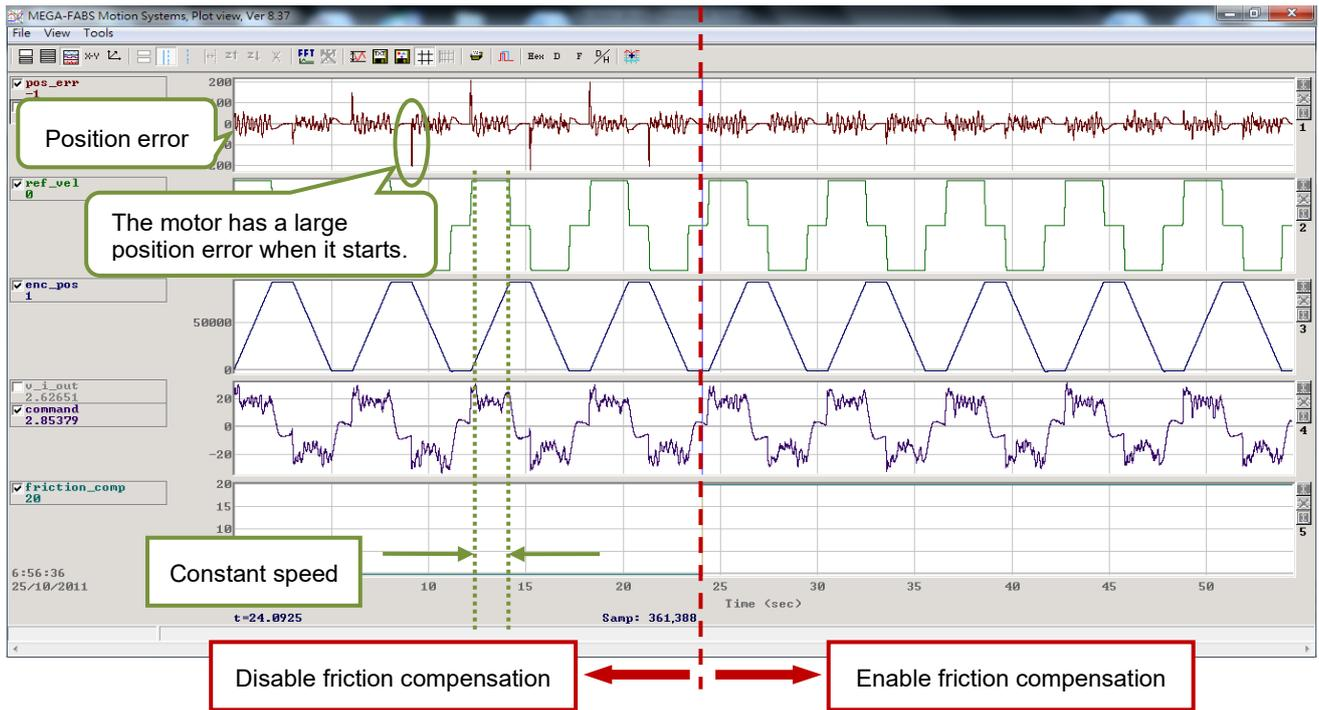

Figure 6.6.7.2
- Step 7. Observe whether “Position Error” is reduced when the motor starts moving. As the right side of Figure 6.6.7.2 shows, friction compensation does reduce position error.